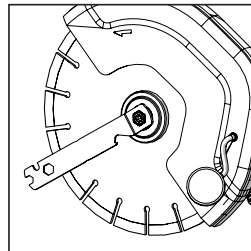

FIG. 3
- Tighten the arbor bolt using the supplied multi-tool. (Fig. 3)